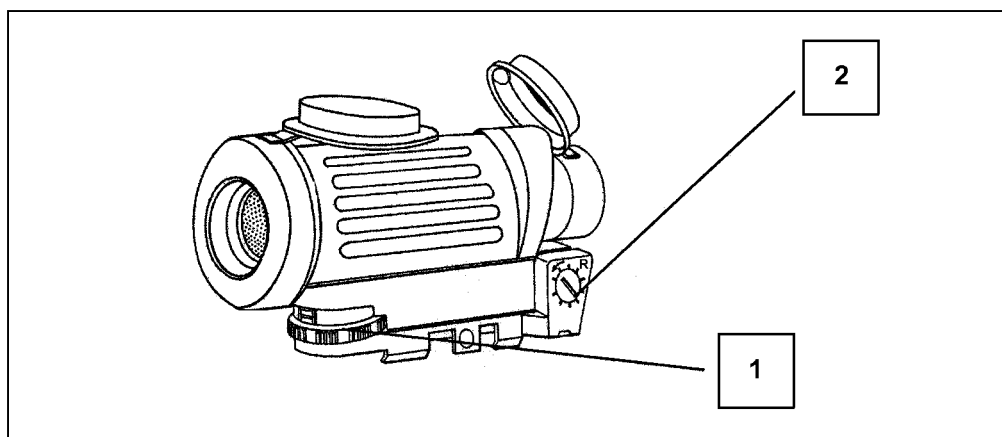

Figure G-46. Adjusting point of impact.
(3) To move the point of impact to the right, turn the windage adjustment screw (2) counterclockwise with the arrow marked on the dial.
(4) To move the point of impact to the left, turn the windage adjustment screw (2) clockwise opposite to the arrow.
(5) To move point of impact up, turn the elevation adjustment screw (1) counterclockwise (right) with the direction of the arrow marked and "UP."
(6) To move the point of impact down, turn the elevation adjustment screw (1) clockwise (left) opposite to the arrow (Figure G-46).